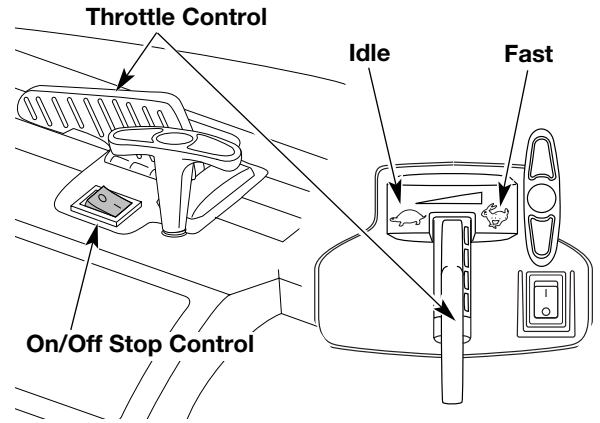
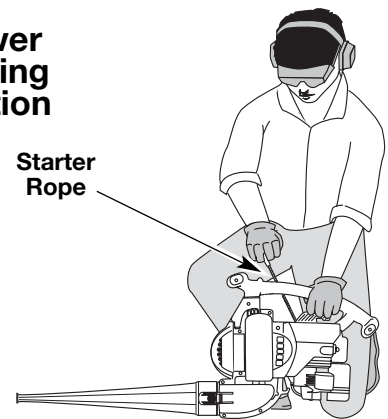
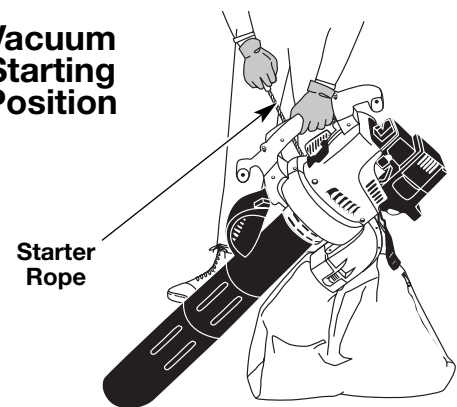

Fig. 10
Fig. 12
Fig. 13
**WARNING:** Avoid accidental starting. Make sure you are in the starting position when pulling the starter rope (Fig. 12 and 13). To avoid serious injury, the operator and unit must be in a stable position while starting.
4. Place the unit in the starting position (Fig. 12 as a blower, Fig. 13 as a vacuum). Move the throttle control to the fast position (↻) (Fig. 10).